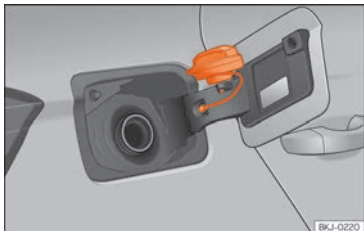

Fig. 186 Fuel tank flap with tank cap attached.
- Place it in the space on the hinge of the open flap »» Fig. 186.